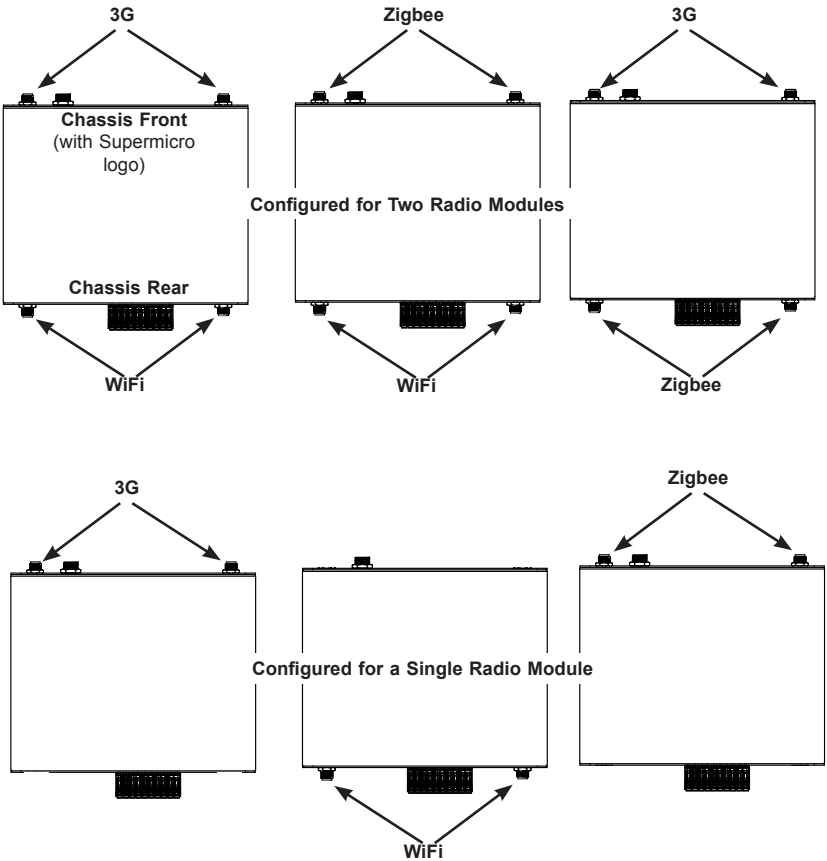

Figure 3-7. Sample Antenna Port Configurations
2. Screw the antenna onto the proper antenna jack on the front or rear of the chassis (Figure 3-7).